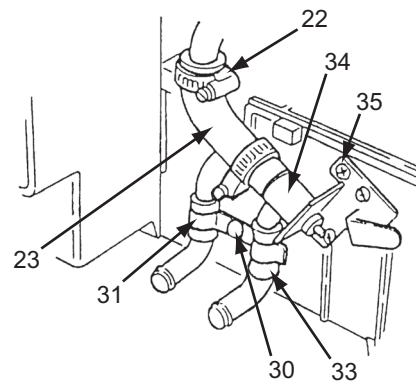

Figure-13
Do not release the rod clamp (27) and remove the rod (6) other than when replacing the actuator. If it has been removed, check to see the lever (t) is at the location indicated in Figure-13.
- (1) Turn the power ON and set to the "Air Blow" mode, one green and one red Operation Panel LED will glow. Wait for 10 seconds, and then check to see if the lever (t) is at the location shown in Figure -13.
- (2) Turn OFF the power.
- (3) Open the rod clamp (7) to release the rod (6).
- (4) Take off the tapping screw (30) to remove the re-tainer (31).
- (5) Take off 3 tapping screws (35).
- (6) Loosen 2 hose clamps (22) and remove the heater hose (23) and remove the water valve (34).